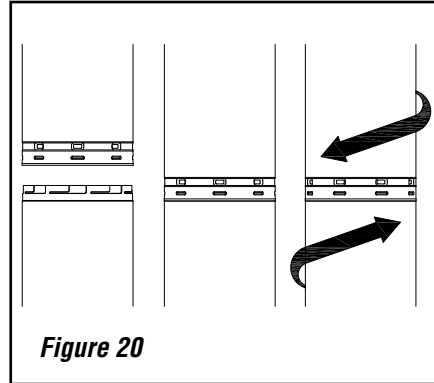

Figure 20
8" DV Lock (8DVL) direct-vent system components are unitized concentric pipe components featuring positive twist lock connections (**see Figure 20**).
Push the vent component against the previous section until it fully engages, then twist the component clockwise, running the dimples down and along the incline channels until they seat at the end of the channels. **This seating position is indicated by the alignment of the arrow and dimple as shown in Figure 20.**
At any transition to or from a horizontal/inclined run, install the 8DVLE45 and 8DVLE90 elbows in the same manner as the straight vent sections. Fully engage the inner and outer unitized pipes at the bottom of the elbow. Rotate the elbow in the desired direction. **NOTE:** Three (3) holes are provided at the bottom of the elbows. Secure the elbow in place with a minimum of two (2) self tapping screws. The top of the elbow will connect to straight lengths of 8" DV Lock pipe by twist-locking the pieces together. (see Figures 20 and 22).
8" DV Lock pipe applications are shown in the illustrations. **8" DV Lock** direct-vent system components are unitized concentric pipe components featuring positive twist-lock connection (see **Figure 20 on Page 21**). The appliances covered in this document are fitted with collars having locking inclined channels. The dimpled end of the vent components fit over the appliance collar to create the positive twist-lock connection.